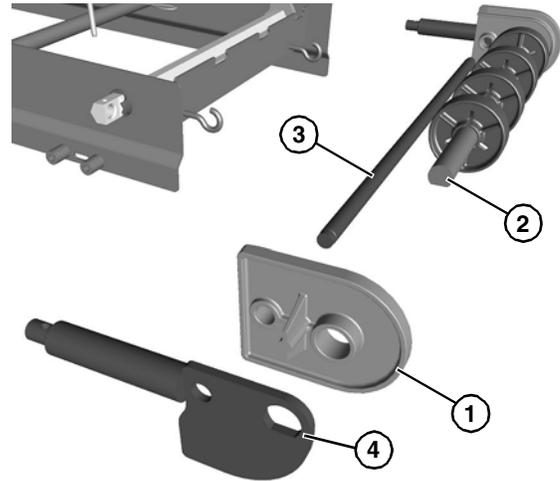

Figure 72
- Install the tracking plate (Figure 72, item 1) to each side onto idler shaft (Figure 72, item 2) and pinch guard shaft (Figure 72, item 3).
- Install the shaft assembly (Figure 72, item 4).